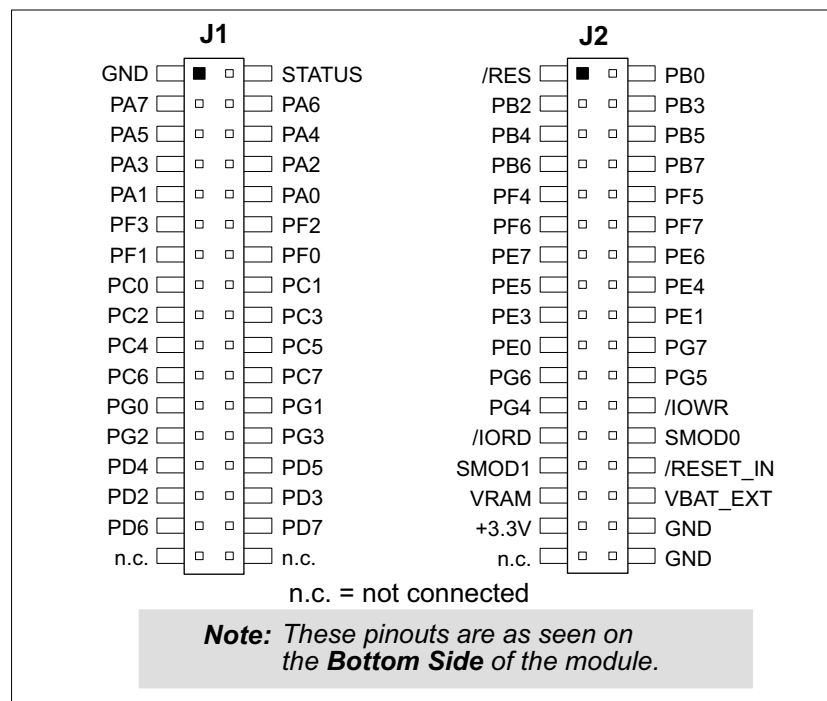

Figure 1. RCM3000 Connector Pinout
The RCM3000 modules have two 34-pin headers to which cables can be connected, or which can be plugged into matching sockets on a production device. The pinouts for these connectors are shown in Figure 1 below.
- **Module Extension Headers**—The complete pin sets of both the **MASTER** and **SLAVE** RabbitCore modules are duplicated at these two sets of headers. Developers can solder wires directly into the appropriate holes, or, for more flexible development, 26-pin header strips can be soldered into place. See Figure 1 for the header pinouts.